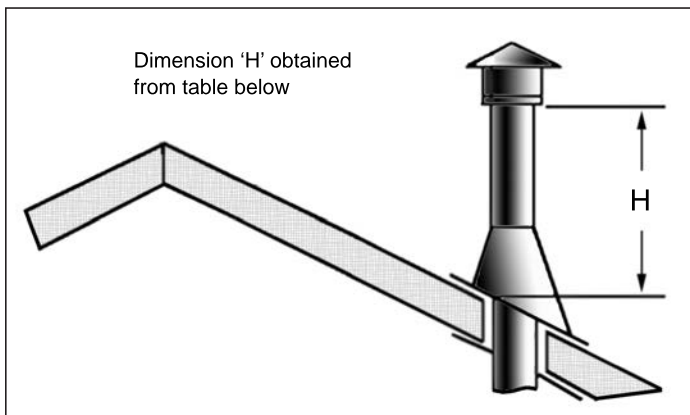

**Figure 59: Vertical Vent Termination**
- STEP 6.** Once the pipe sections have been joined, and run up through the hole in the roof, slip an elbow strap over the exposed sections, bend the support straps outwards, and push the elbow strap down to the roof level, as shown in Figure 59. Tighten the clamp around the pipe section. Use a level to make sure the pipe is truly vertical. With roofing nails, secure the support straps to the roof. Seal the nails holes heads with non-hardening mastic. Trim the excess length of the support straps that extend out beyond the edge of the flashing.
- STEP 9.** Slip the storm collar over the pipe, and push it down to the top of the roof flashing as shown in Figure 59. Use the non-hardening sealant around the joint between the pipe and the storm collar.